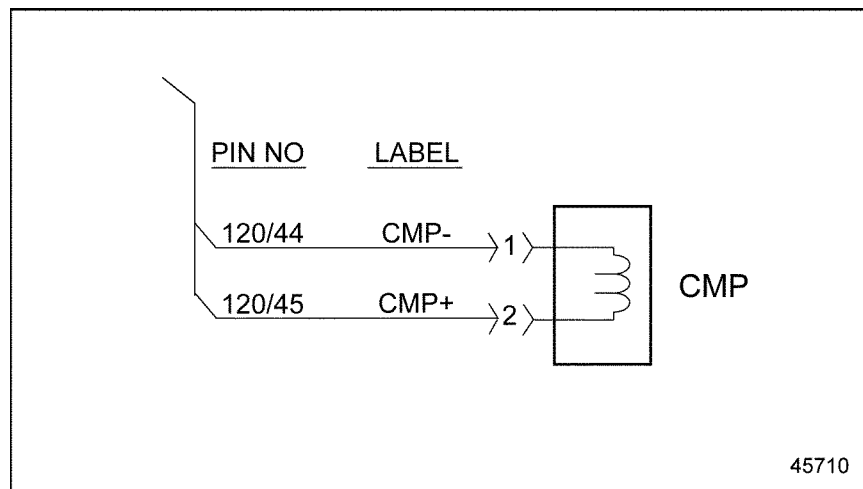

Figure 77-2 MCM — Camshaft Position Sensor Schematic
2. Measure the resistance between pin 1 of the CMP Sensor and ground. See Figure 77-2.